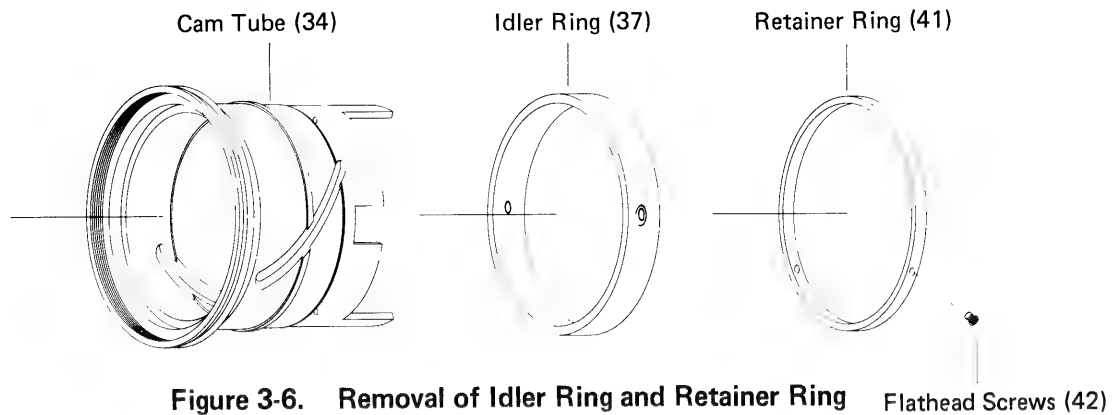

Figure 3-6. Removal of Idler Ring and Retainer Ring
9. Remove the three flathead screws (42) in the retainer ring (41, Figure 3-6) and slide the idler ring (37) and retainer ring off.